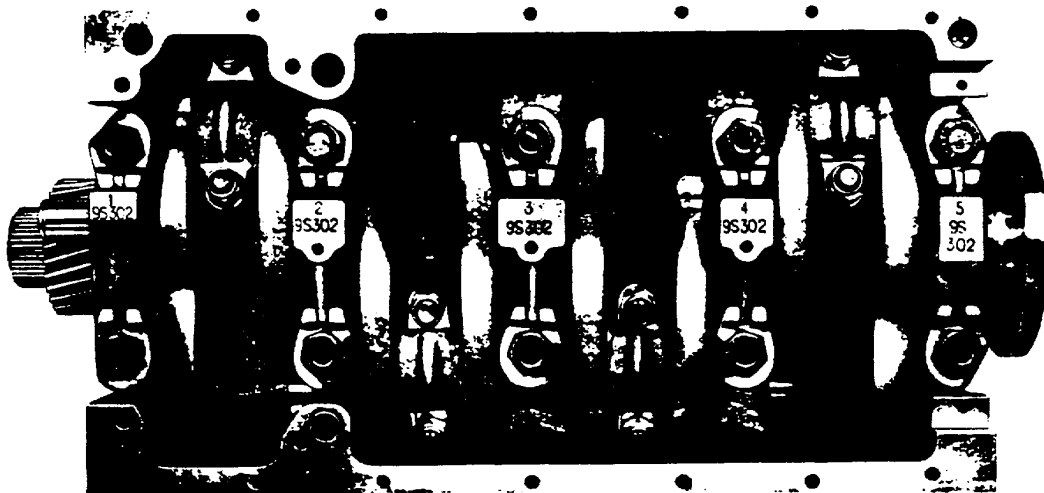

Fig. H.3.
Note: Make sure that the bearing caps are fitted to their original positions. Each cap is numbered to correspond with its engine position commencing with No. 1 at the front of the engine. Each cap is also marked with a serial number as stamped on the cylinder block bottom face. These should read in line (see Fig. H.3).
- Fit the lower halves of the main bearings to the bearing caps. Oil the bearings and place the caps in their respective positions ensuring that the lower halves of the thrust washers are correctly positioned on either side of the center main bearing cap. When replacing the main bearing caps, ensure that they are fitted in their respective positions, also that they are fitted the correct way round. The caps are numbered, No. 1 commencing at the front of the engine. Each cap is also marked with a serial number as stamped on the cylinder block bottom face. These should read in line (See Fig. H.3).